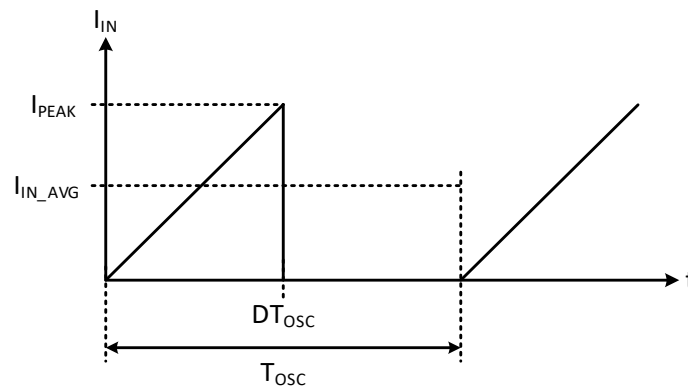

Figure 17. Buck-Boost Input Signature in BCM
To determine the appropriate inductance, identify the transition point where the converter toggles from CCM to DCM. This occurs when the inductor current ripple reaches zero, and the power switch (SW) is immediately reactivated, causing the current to ramp up again. Figure 17 illustrates the input current activity of the buck-boost converter.